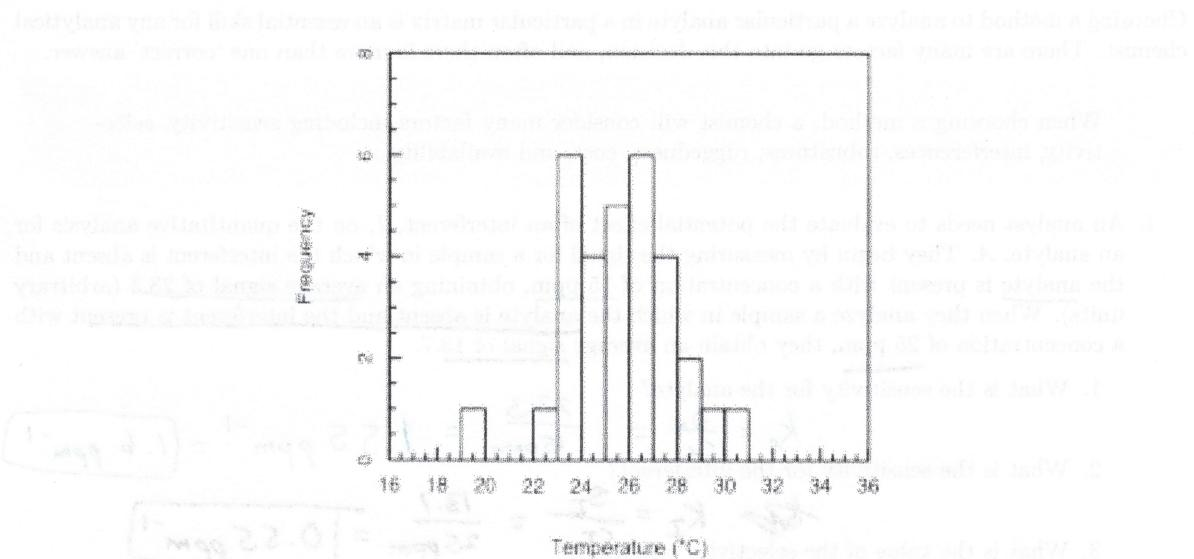

Figure 2: Histogram of measured daily high August temperatures in Altamont. (n = 31)
1. The *histogram* in Figure 2 shows the measured daily high temperatures for the month of August in Altamont for the year 2020. For this data, $\bar{x} = 25.6^\circ\text{C}$ and $s = 2.23^\circ\text{C}$. An observation was made on every day of August. What range of temperatures can you be 95% certain encompass μ ?